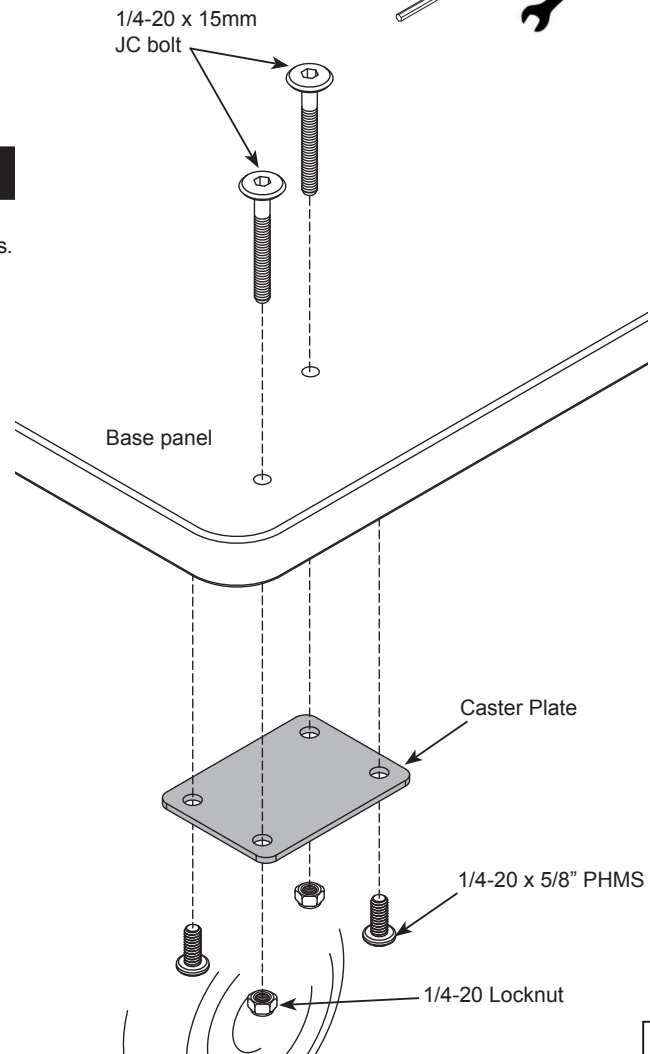

Figure 1
2. Attach the four caster plates to the base panel using (2) 1/4-20 x 5/8" PHM screws and (2) 1/4-20 x 40mm JC bolts. The JC bolts should be "kitty corner" to each other for maximum strength as shown in **Figure 1**.